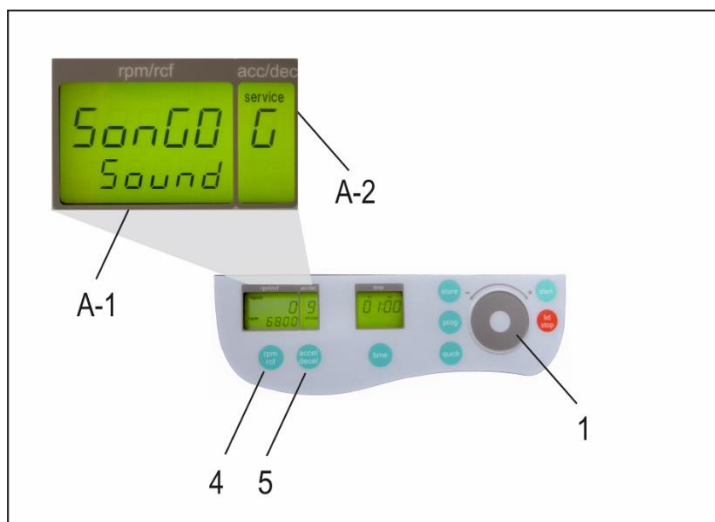

Figure 9
Proceed as illustrated, under point 3.2, to enter this program mode, press the key, "accel/decel" (5). In the display, "accel/decel" (A-2) flashes the word, "service". Select the letter, "G" with the control field (1). As a result, appearing in the display, "rpm/rcf" (A-1), the word " SonGo/Sound". After pressing the key „rpm/rcf“ (4), select a song with the adjusting knob (1), (see Figure 9).